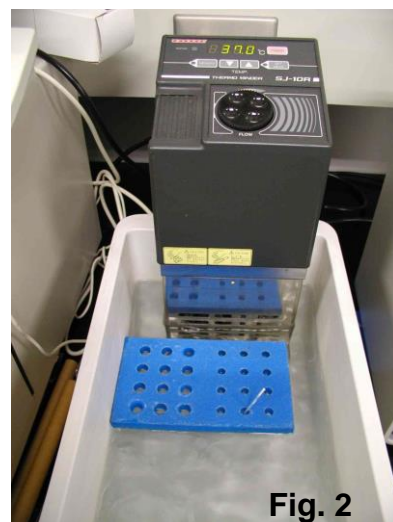

Fig. 2
- 2) After holding the straw in the air for 10 s, immerse it in a water bath at 37 °C for 15 min (Fig. 2).